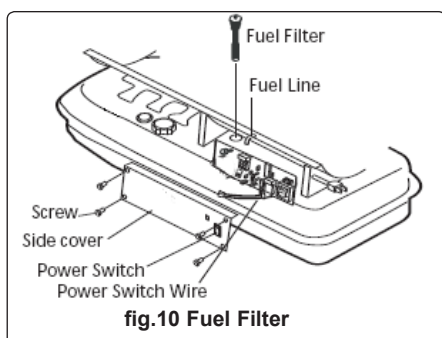

fig.10 Fuel Filter
- 6.5. **Fuel filter.** The fuel filter (fig.10) should be cleaned twice per season, unless contamination occurs where it will require cleaning immediately. To clean the filter, remove and wash in paraffin.